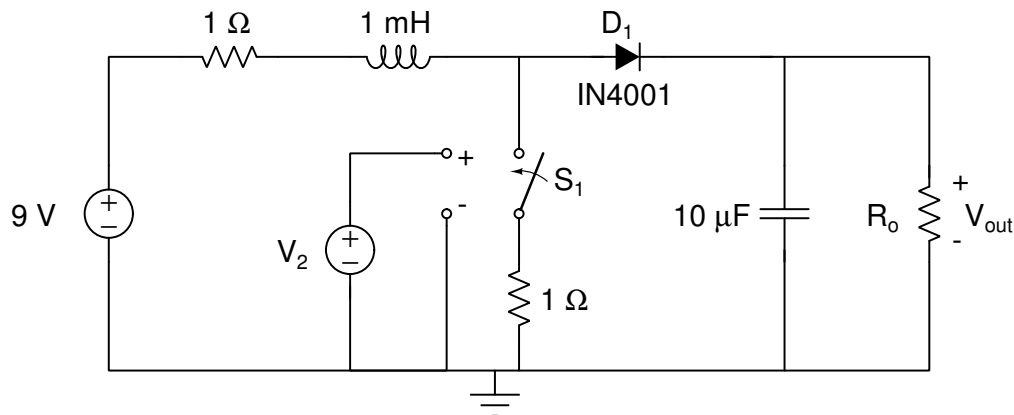

Figure 4: Test circuit representation of the boost circuit for Micro-Cap simulation.
9. Use Micro-Cap to simulate the boost-circuit shown in Figure 4. This circuit represents an approximation of what you will build in the lab. The switch is modeled in Micro-Cap as a voltage controlled switch S(V-Switch). This switch is available in Micro-Cap under **menus** → **Components** → **Analog Primitive** → **Special Purpose**. Choose the SBREAK2 model for this circuit. Set the “on resistance” of the switch to  $1\ \Omega$  and the “off resistance” to  $10^6\ \Omega$ . The switch is closed when the control voltage is 5 V and the switch is open when the control voltage is 0 V.